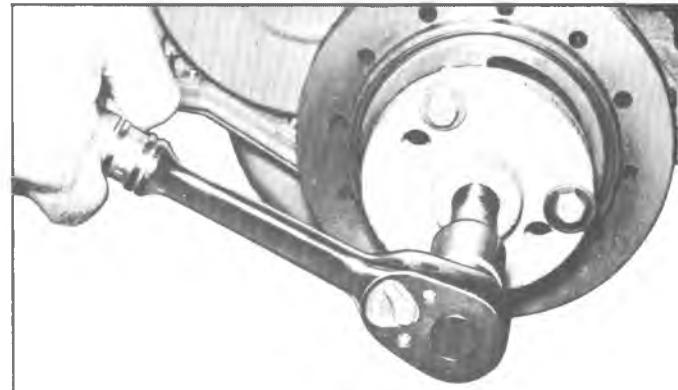

Fig. 15L—Removing Torsional Damper
4. Install Tool J-23523 to damper and turn puller screw to remove damper (fig. 15L). Remove tool from damper.